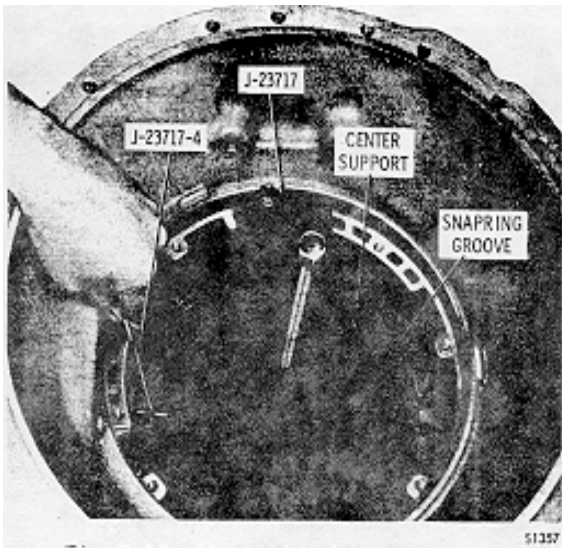

Fig. 7-13. Measuring for selection of center support snapping
(6) Using snapping gage J-23717-4, measure the snapping groove clearance (fig. 7-13). The gage has four lugs of different thicknesses. Try all four lugs into the groove. The thickest lug which will enter the groove indicates the thickness of the snapping required.
(7) Select a snapping, as shown below: